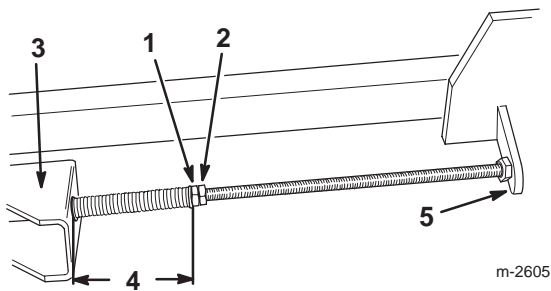

Figure 42
- Loosen the jam nuts on the adjusting shafts to relieve the tension on the drive belt, then remove the worn drive belt from the pulleys (Fig. 42).
- Install the replacement drive belt around the drive pulley on the traction unit and the spindle pulley (Fig. 42).
- Install the belt guide on the mower with the two flange-head bolts. Ensure that the formed loops face toward the rear of the mower (Fig. 42).
- Tighten the front jam nut on each adjusting shaft until the springs are completely compressed, approximately 4-3/4 in. (12 cm) measured between the washer and the bushing, then back the front jam nuts off one turn (Fig. 42).
Important Do not overtighten the jam nuts after the springs are fully compressed, as this can damage the drive belt (Fig. 42).
- Tighten the rear jam nuts (Fig. 42).